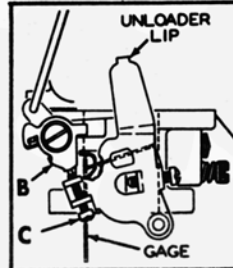

Figure 6
b. Step "B". (See figure 6.) With choke valve held closed and end of fast idle screw (C) resting on high step of fast idle cam (B), rotate screw (C) until the dimension listed under "Step B" in the Table exists between edge of throttle valve and carburetor bore. Measure at side opposite idle port.
VIII. UNLOADER ADJUSTMENT. (See figure 6.)